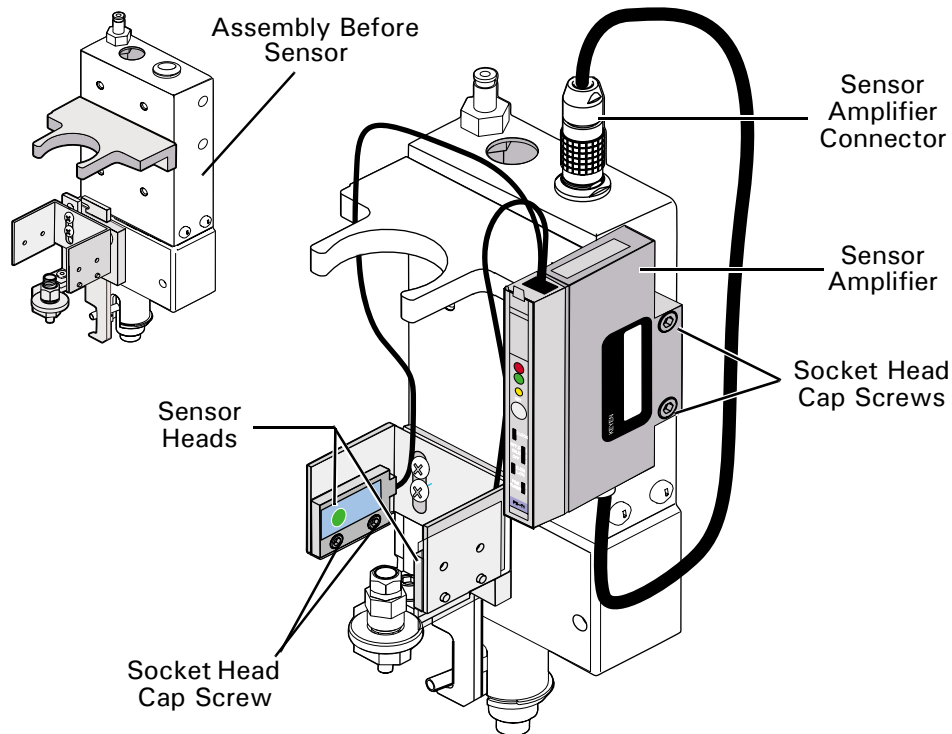

Figure 5
7. Assemble sensor amplifier onto the right side of the front cover and secure with two socket head cap screws. See Figure 5.